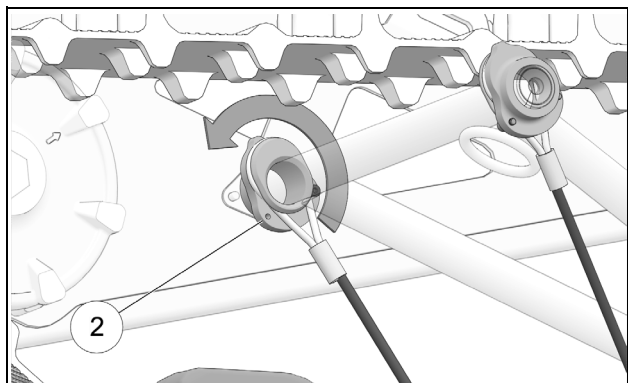

Figure 15
- Rotate upper cam (2) 180°. See reference figures and **BASIC TUNING** to identify the preferred cam position. See Figure 15.